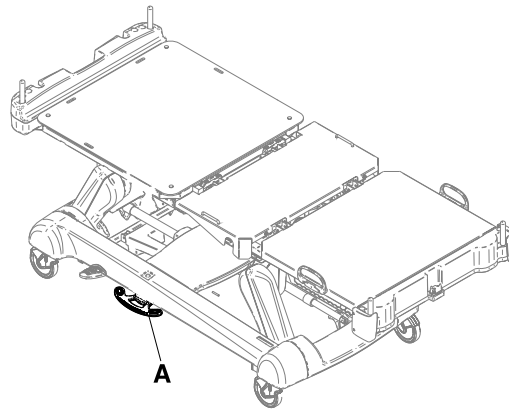

Figure 5: Flipped manual brake pedal
1. Flip down the brake pedal (A) (Figure 5 on page 21).